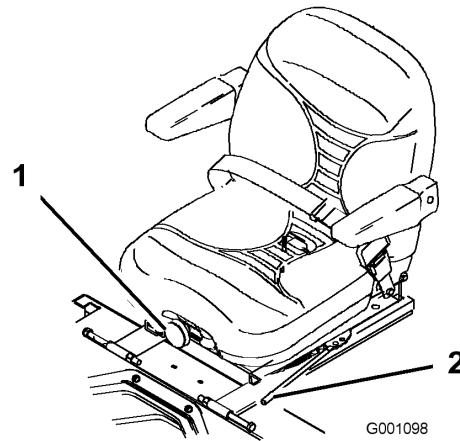

Figure 19
1. To adjust, move the lever sideways to unlock seat (Figure 19).
To adjust, turn the knob in front either direction to provide the best comfort (Figure 19).